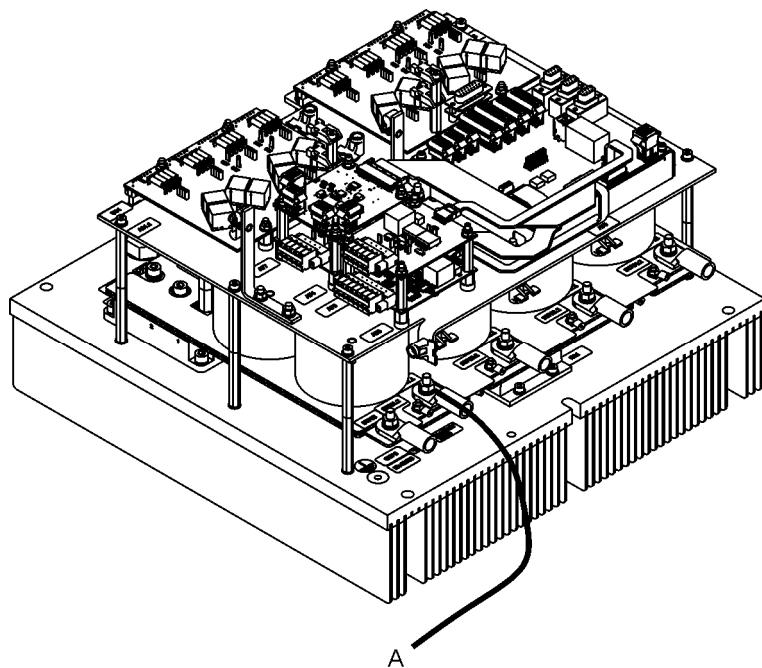

Figure 5-39: L402 Electrical Connections on A221
- a. Disconnect cable A (see Figure 5-39). This cable runs from the choke along the front of the APS to the A221 Buck Boost Converter. The cable terminates and is held in place with an M6 nut, M6 Schnorr washer and M6 flat washer. Remove these fasteners to disconnect the cable.
- a. Connect cable A (see Figure 5-39). This cable runs from the choke along the front of the APS to the A221 Buck Boost Converter. The cable terminates and is held in place with an M6 nut, M6 Schnorr washer and M6 flat washer. Connect the cable and affix these fasteners to connect the cable.